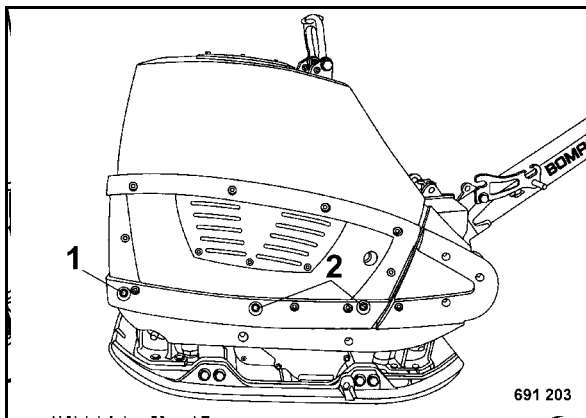

Fig. 51
- Loosen the hood fastening screws (1) on both sides and remove the hood fastening screws (2) on both sides (Fig. 51).